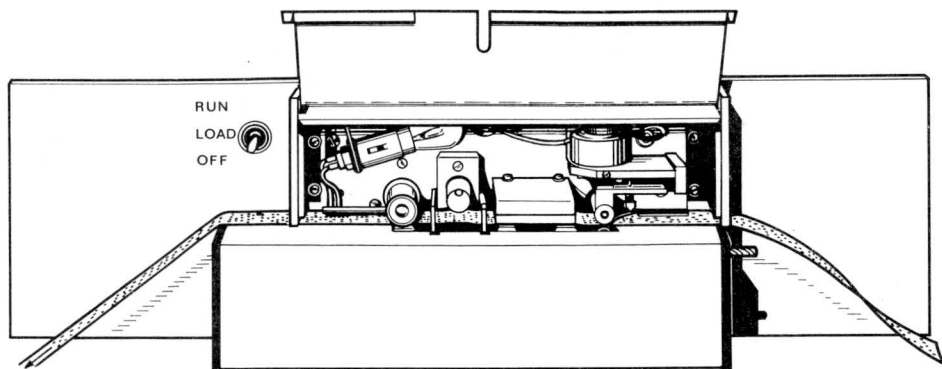

Figure 21 Reader tape path
- Step 9 Place the tape in the reader. Although Figure 21 shows the tape path inside the reader, it is not normally necessary to open the reader cover because the tape can be slid in from the front of the reader.